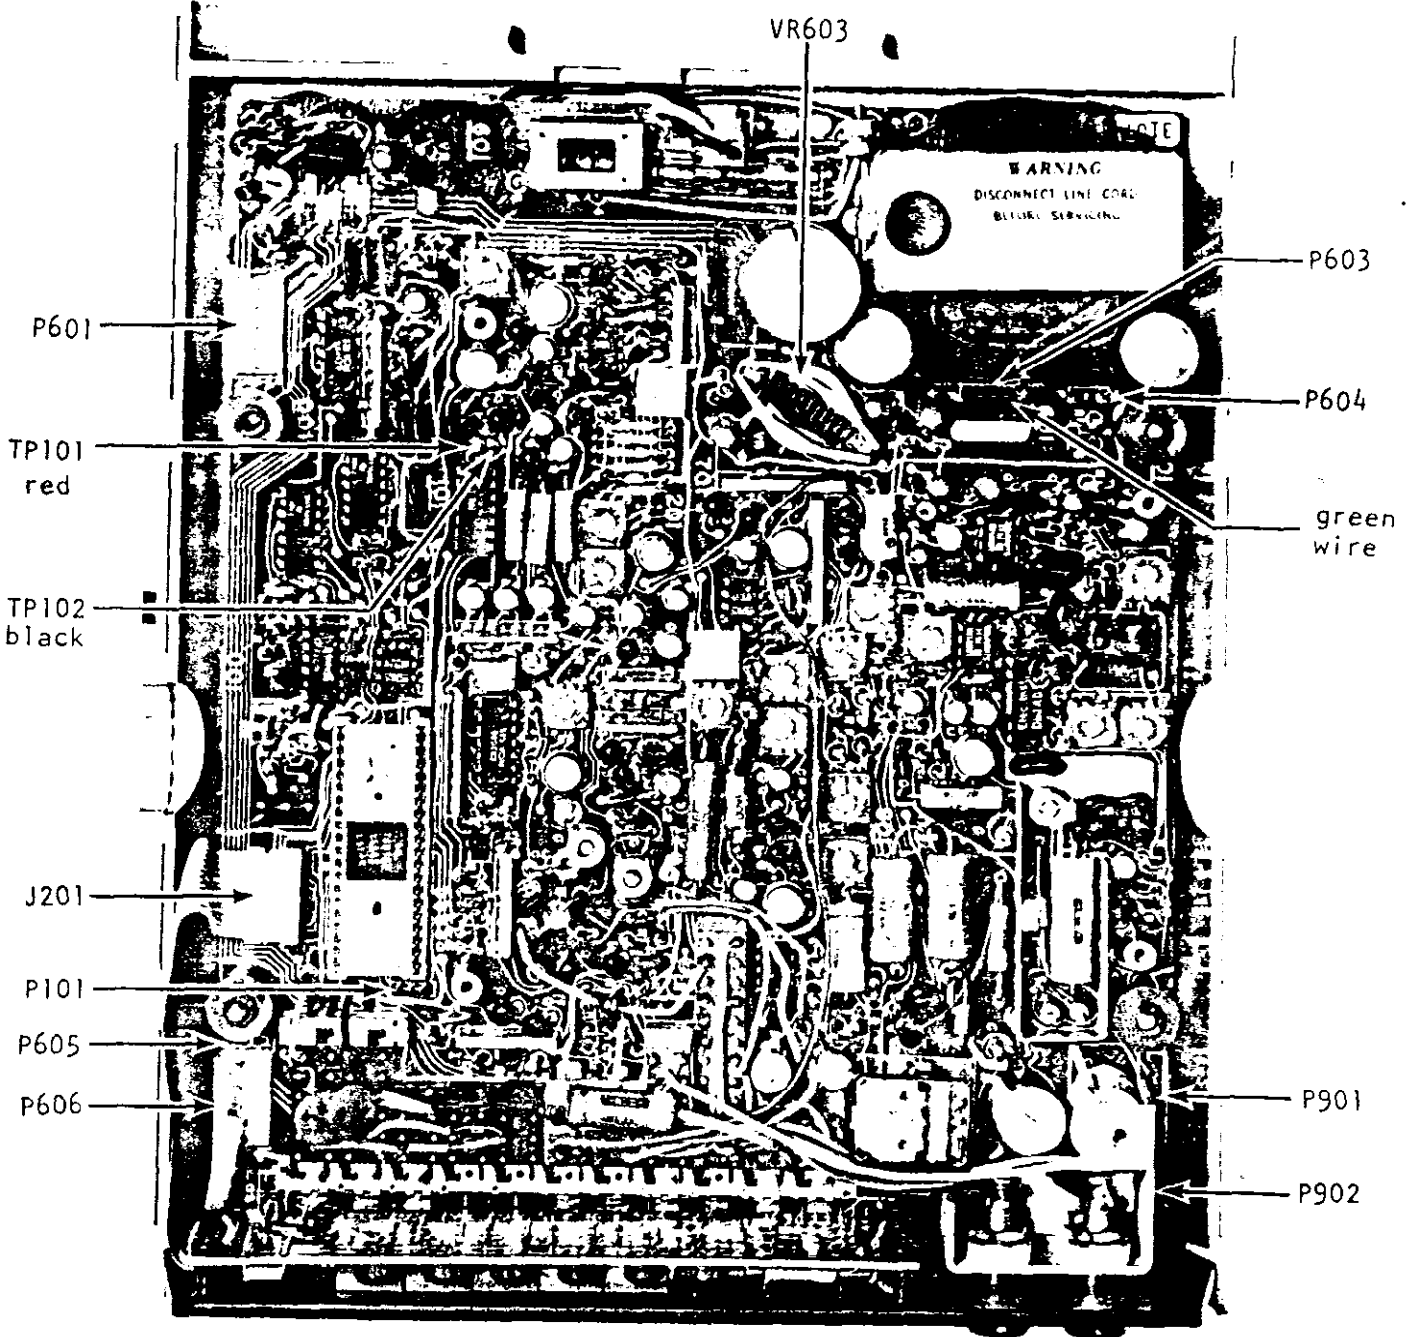

FIGURE 38. Locations of Connectors and Test Points.
- d) Connect a Berg-type 2-pin housing (Keithley CS-266) with approx. 30 inch leads at TP101 and TP102 on PC-407 (See Figure 38).
- e) Connect Oscilloscope (G) between the following points.
14. Connect the Oscilloscope to the test points shown in Figure 38. The "green" wire should be connected between power supply low and Oscilloscope low. The "black" wire should be connected between pre-filter output and Oscilloscope vertical input. The "red" wire should be connected between FON and the Oscilloscope trigger.
22. Connect the Decade Resistor (D) to the upper set of terminals.